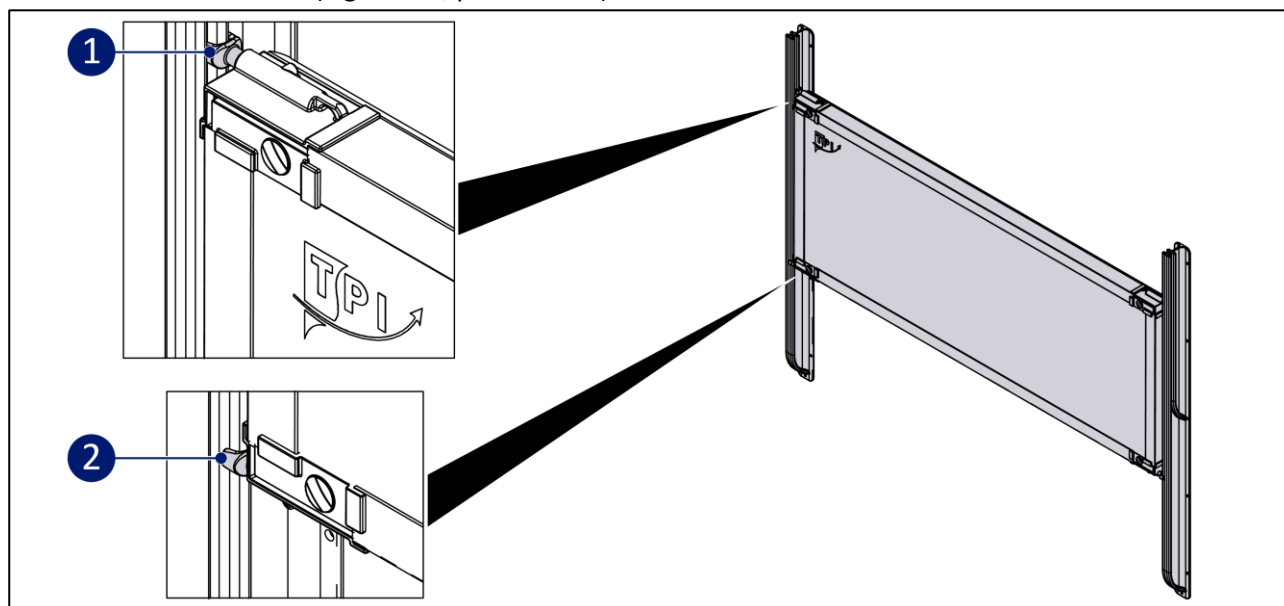

Figure 4-5: Placement of the Fenno door into the Fenno slider guides.
1. Place the Fenno door (Figure 4-5, pos. 1 and 2) into the Fenno slider rail